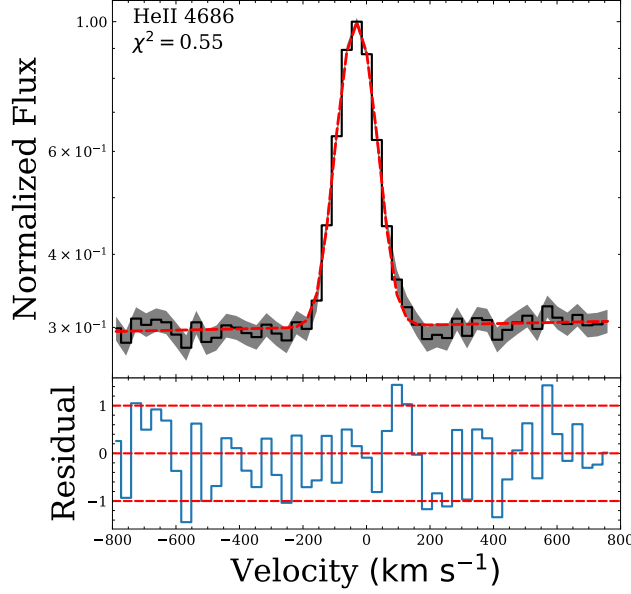

Figure 7: Example of single-Gaussian fitting for He II $\lambda 4686$ line.
1. Single-Gaussian fitting for a single line (see Figure 7).